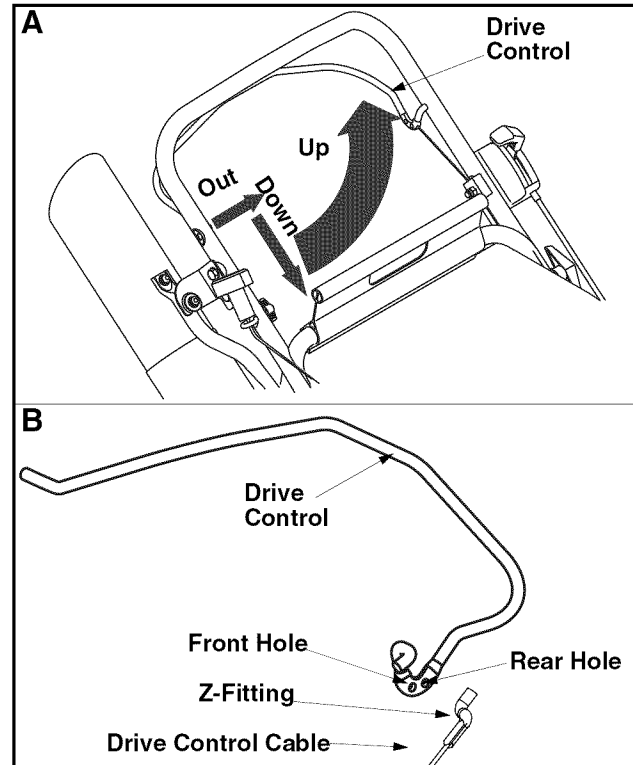

Figure 17
- Remove hex screw on top of rear housing near mounting bracket and the flange lock nut that secures flail screen. See Figure 17.